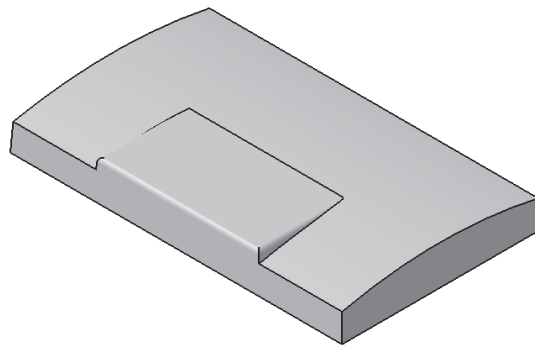

**Figure 5-93** The model, after drafting all the vertical faces
- c. Add the draft feature to all faces of the model except the upper and lower faces, refer to Figure 5-93.
4. Set the value of the **Angle** spinner to **3** and choose the **OK** button from the **Draft Definition** dialog box. The model, after creating the draft feature, is shown in Figure 5-93.